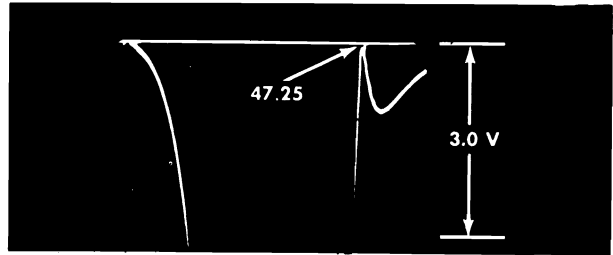

Fig. 7 Expanded View of the 47.25 MHz Trap Frequency.
5. Connect the sweep generator to terminal "A" converter grid (Refer to appropriate tuner tube and trimmer layout). Connect terminal "F" to chassis and connect a jumper between terminal "E" and the bottom end of the 68 ohm resistor in the cathode of the first IF. This provides a "blow up" of the 47.25 MH trap (Fig. 7). Adjust the 47.25 MH trap for minimum marker amplitude.